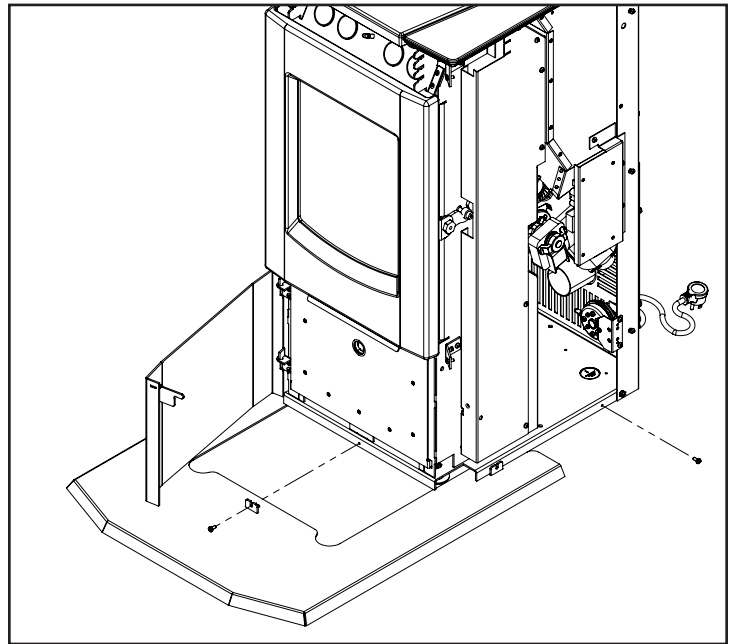

Figure 2: Hearth Pad Install
1. First install the hearth pad if you plan on using it. You may have to unscrew feet to raise unit up. Tilt the unit so it is balancing on the back feet, slide the hearth pad under the unit while making sure the side mounting tabs are on the outside of the base flange. once holes are aligned secure with provided T-20 thread rolling screws. See Figure 2.